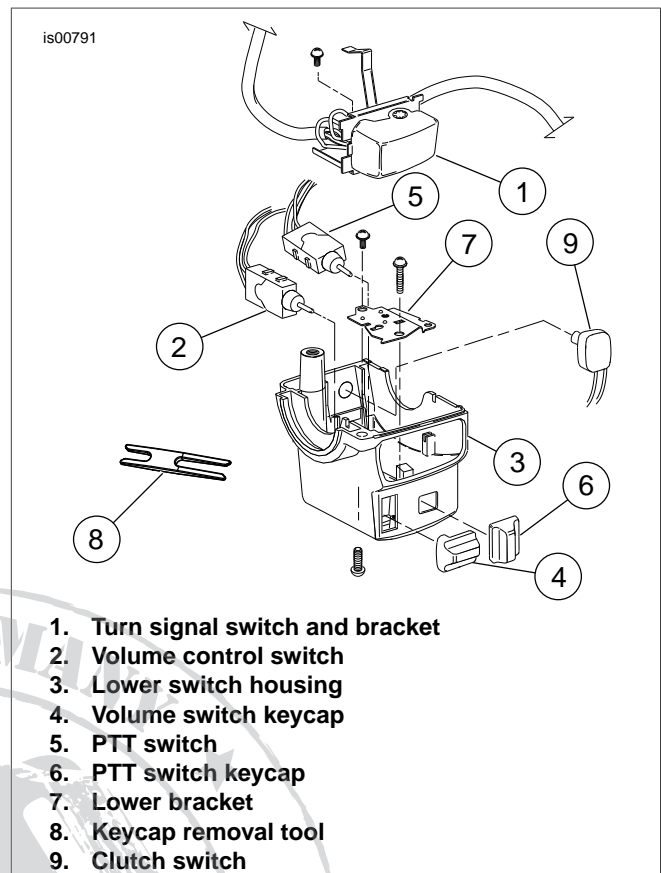

Figure 12. Ultra Models Left Handlebar Lower Switch Housing Assembly
1. See Figure 12. Carefully cut the cable strap holding the wire conduit to the turn signal switch bracket (1).
2. Remove Phillips head screw, holding upper bracket, from housing (3).
- See Figure 12. Remove two screws holding lower bracket (7) to boss in housing. Pull bracket from switch housing.
- Mark or note the positions (top, right, left) of the radio (2) and/or PTT (5) switches and remove the switch assemblies.
- See Figure 12. Place CB PTT switch (5) into chrome lower switch cavity so that it is in a horizontal position (light green wire toward clutch bracket).